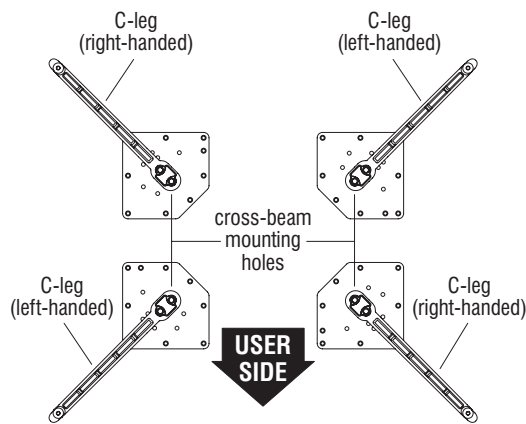

Figure 1 - (top view)
2. Carefully place the C-legs upside down on a soft, protective surface and place them in the general vicinity where they will be assembled on the table. Make sure a left- and right-handed C-leg are located on each end of the table and their cross-brace mounting holes are facing each other (Figure 1).